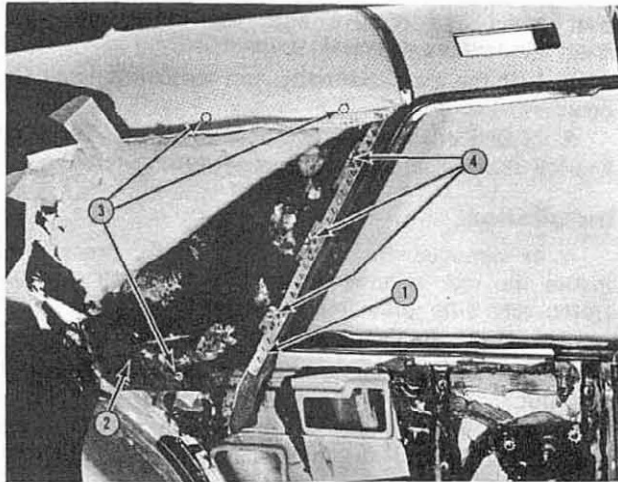

FIG. 91
2. With a pair of needle nose pliers and a dull putty knife, carefully remove the edge of the headlining from the retainer barbs (1, Fig.91) along the vertical section of the retainer.
3. Using a putty knife, separate the headlining and cotton padding from the headliner side backing panel (2). Then fold the headlining and padding back and tape the material to the rear windows to provide working room (See Fig.91).